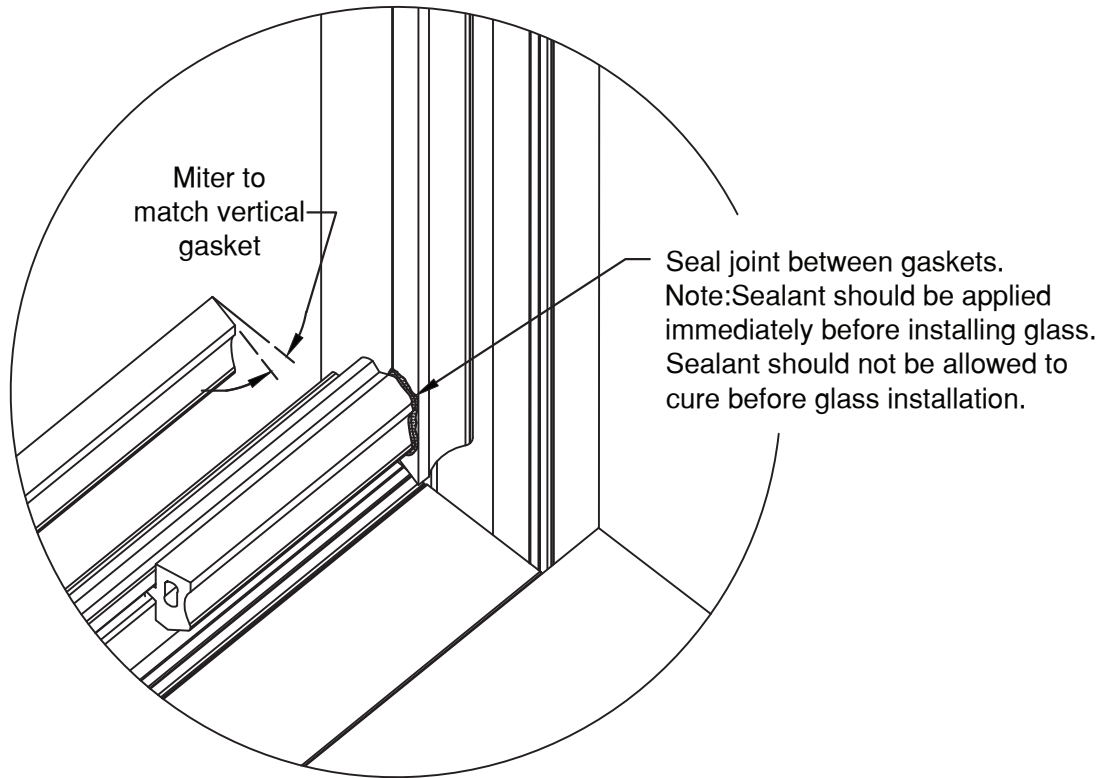

Figure 17
- 3.18 Glazing captured system: Install exterior gaskets running the vertical gasket through and butting horizontal gaskets between. Joint between vertical and horizontal gaskets must be sealed. Horizontal gaskets should be mitered per **FIGURE 17. page 19.** Crowd gasket using formula of 1/4" per foot of aluminum extrusion. Note: gaskets will be installed at verticals and sill of opening when using pressure plate horizontal at head prior to installing glass.